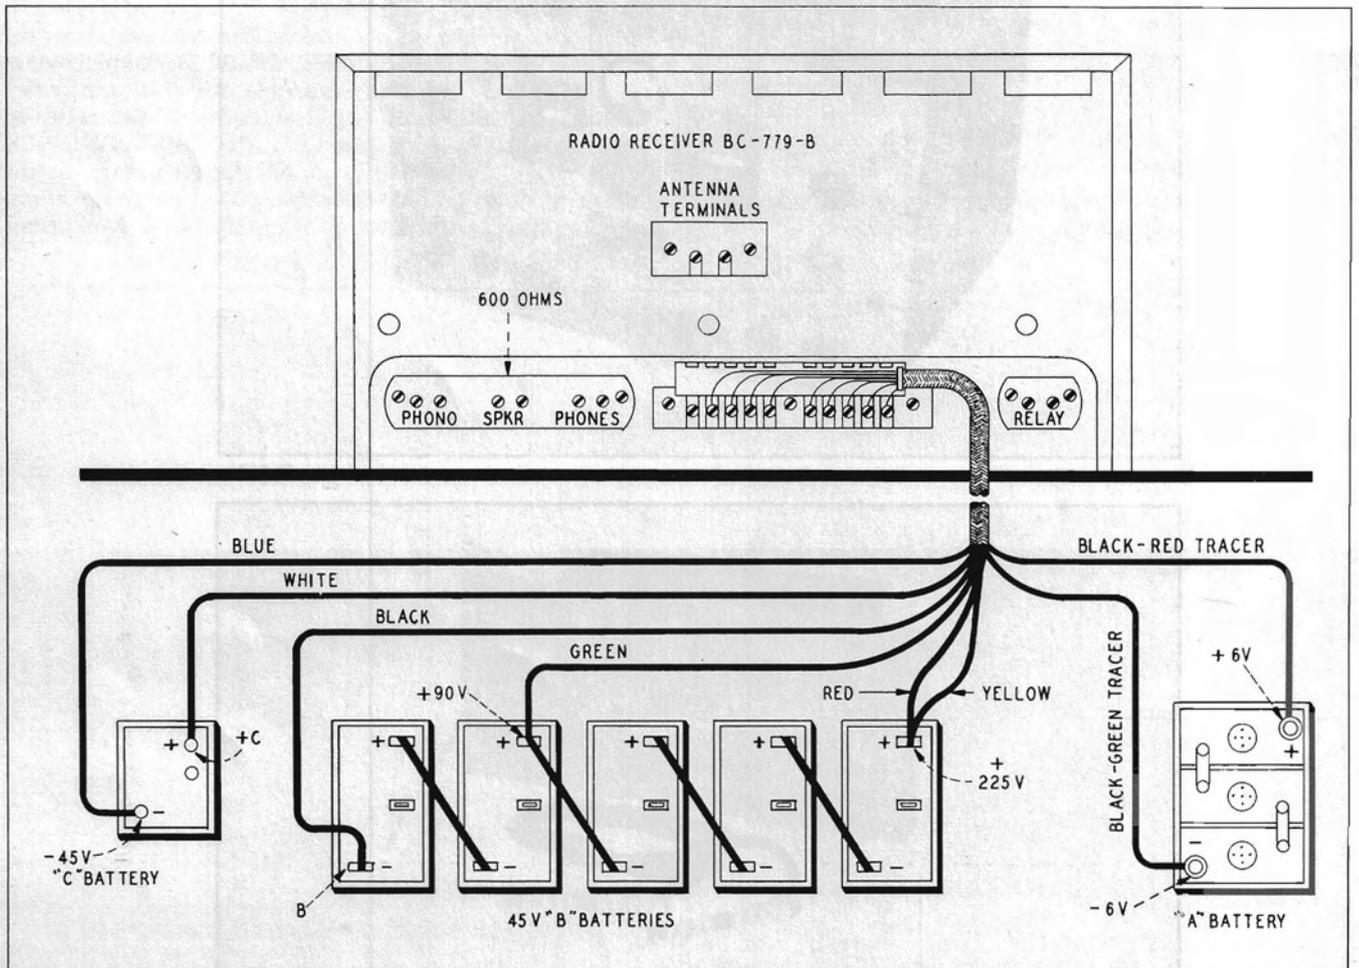

Figure 5. Interconnection of Radio Receiver and Battery Supply
The end of the cable terminated in the terminal strip connects to the receiver as described previously. The connections of the eight color-coded leads are determined by the color of the lead. Figure 5 illustrates the connection to the batteries. When making the installation, be sure to connect the battery cable to the receiver first and then to the batteries. When disconnecting the cable, remove the battery connection first and then disconnect the receiver.
4. Battery-supply cabling diagram shown in figure 5.